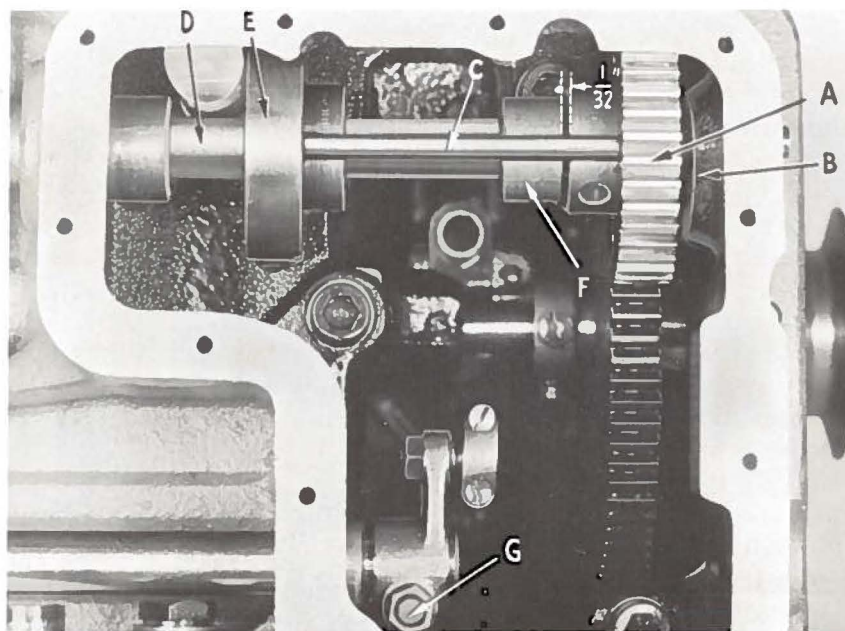

Fig. 9
To change or check the timing between the lower and upper main shafts, remove the head cover and the main gear case reservoir bottom cover (Fig. 9).
Upon location of the needle bar in its maximum "down" position, the timing may be checked by looking into the main reservoir at bottom. If the machine is timed properly, the flexible coupling pin (C, Fig. 9) will line up with the center of the lower main shaft (D). It will also be noted that the end of the pin (C) which is held in gear (A) will line up with the small casting boss (B). Since the flexible coupling head (E) has two pins, located 180° apart, care must be taken to choose the correct pin for the timing checking. The correct pin (C) which is farthest away from the two hub securing screws, is to be used for this check.
To center needles in the feed dog in the line of feed, remove the bottom cover of the main reservoir exposing the clamp screw (G, Fig. 9) in the feed driving arm. Loosening the screw enables the feed rocker shaft to be rotated to secure the proper location of the feed dog. Retighten clamp screw and replace main reservoir bottom cover.